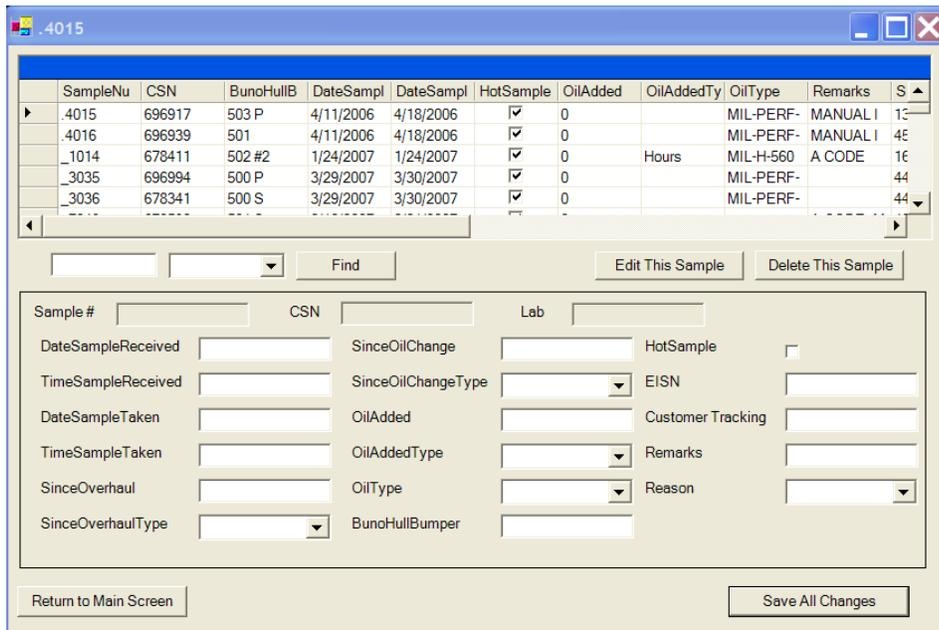

Figure 92. Sample Options
- (2). Enter a sample number or select a CSN using the pull down then press find to retrieve the sample you need to change (Figure 92).